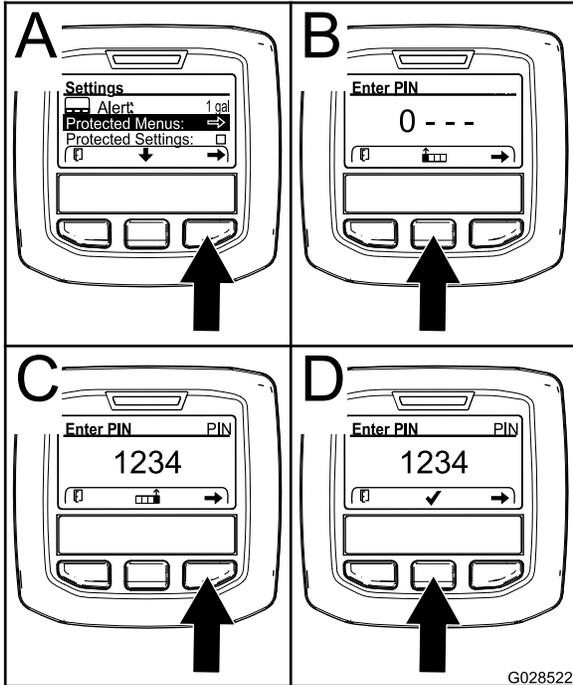

Figure 24
3. Press the right select button to select Protected Menu (A of Figure 24).
- Press the center selection button (B of Figure 24) to increase the numerical value (0 to 9).
- Press the right selection button (C of Figure 24) to move the cursor to the next numerical position to the right.
Note: The checkmark icon appears above the center selection button (D of Figure 24).
6. Press the center selection button (D of Figure 24) to enter the password.